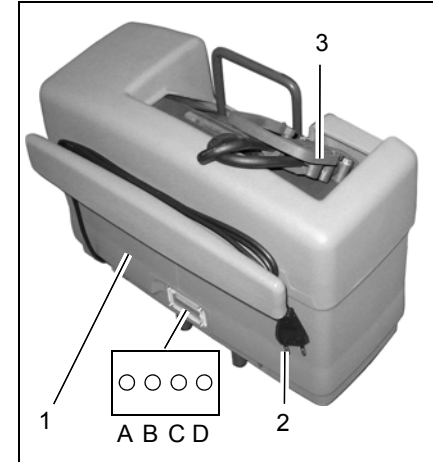

Fig.13
The battery trolley (Fig. 13/1) represents the power supply for the Hakomatic B10.
1. Connect the battery plug (Fig. 13/3) to the battery socket on the battery trolley (as illustrated in the figure).
2. Insert the power plug (Fig. 13/2) in a mains power socket.
- LED (A) lights up yellow = <80% charge
- LED (B) lights up yellow = >80% charge
- LED (C) lights up green = 100% charge
4. Following the charging process, disconnect the power plug again. Errors are signaled by the red LED (D). Contact your authorized Hako service center in the event of an error!